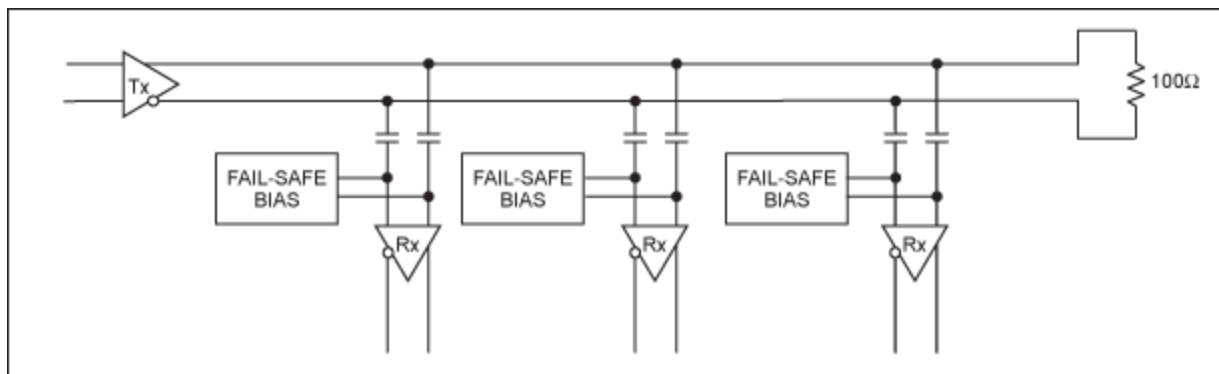

Figure 1. Short connections should be used between the bus and receiver inputs of an AC-coupled,
**Figure 1** shows the block diagram of a typical multidrop LVDS bus. The connection length between the bus and the receiver inputs should be as short as possible. The fail-safe biasing circuit shown in Figure 1 provides a common-mode bias around 1.2V. When the bus is not driven by the Tx, or the bus has no state transition for a long time, the circuit also sets a small, 50mV to 100mV differential voltage to drive the LVDS receiver output to a determined logic state. For a general discussion of LVDS fail-safe circuits, refer to Application Note 3662: Understanding LVDS Fail-Safe Circuits.